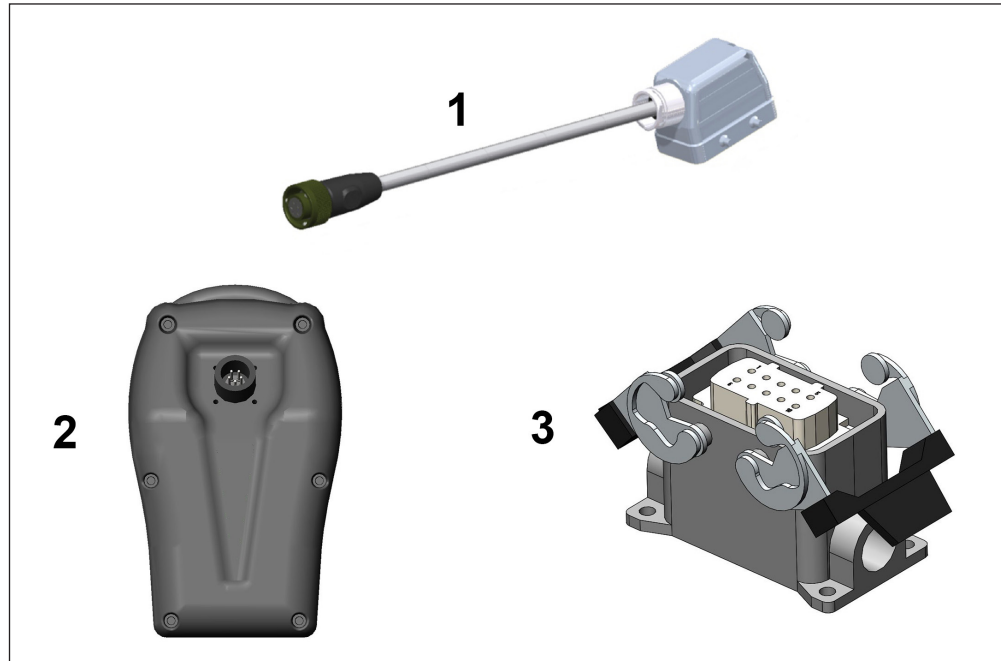

Figure 4.47 - Wired Handset Connection Items
1. Connect the doglead cable item (1) Figure 4.47 to the socket on the base of the handset Item 2 and the other end of the cable to the socket on the machine Item 3.